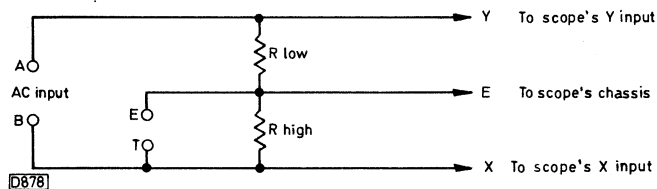

Fig. 1: Principle of the tester.
A knowledge of how the tester works will help in getting the best results from it. Fig. 1 shows a simplified circuit. An a.c. voltage is applied to resistors R-low and R-high via terminals A and B. Experiments have shown that the frequency of this a.c. input can be anything between about 25Hz and 20kHz. For convenience, the tester uses the 50Hz mains frequency. The scope's internal horizontal timebase is not used. Instead, the oscilloscope's external horizontal input (X input) is connected to point X. Point E goes to the scope's chassis and point Y to the vertical (Y) input. With the scope correctly set up, the screen display will consist of a horizontal line. This is because resistor R-high has an ohmic value several hundred times that of resistor R-low. If test points E and T are joined together, a vertical line will appear on the screen.